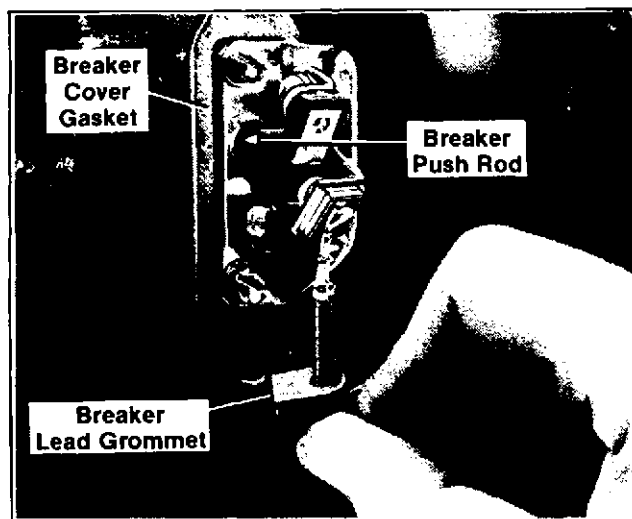

Figure 8-20. Breaker Wire Installation
2. Place cover gasket in position and attach lead, that is attached at cam cover, to breaker point screw as shown in Figure 8-20.